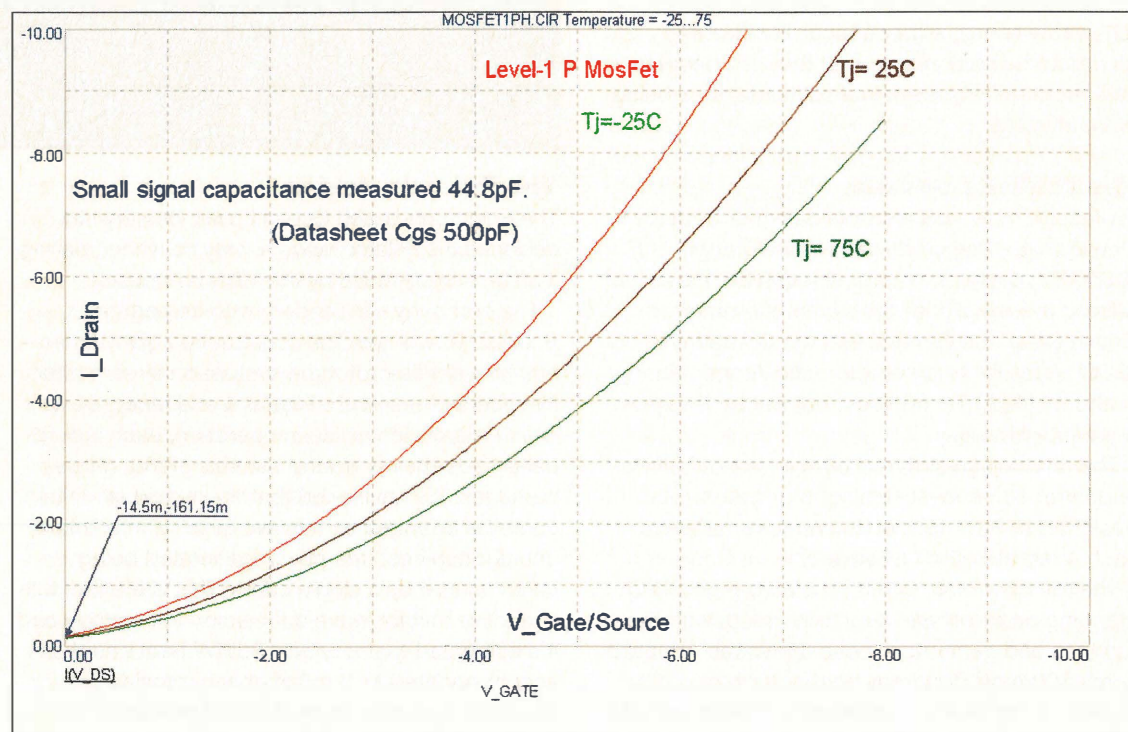

Figure 1: These transfer characteristics were plotted using the Level-1 model for a popular lateral power Mosfet used in amplifier circuits
with zero gate-source voltage, invalidating the simulated bias current. The second and more usual problem is the model's drain current gate-source transfer curves cannot follow that measured for the power Mosfet, so overstate the drain currents for small drive voltages. Both faults are clearly evident in this plot made using a Level-1 model as shown in Figure 1.
**Figure 7:** Using the model from Figure 1 with its complement in the Maplin amplifier circuit, shows a significant start-up transient caused by the models' excessive no-bias drain current. This is reflected in the exceptionally poor distortion simulations.
No doubt at some time you will need to model the AC small signal frequency response in order to check an amplifier's closed loop stability, this requires one further check of a model. A power Mosfet exhibits significant input capacitances which can be modelled using the bias current and drain-source voltage as used in the amplifier. This was not well modelled in **Figures 1 to 3**.